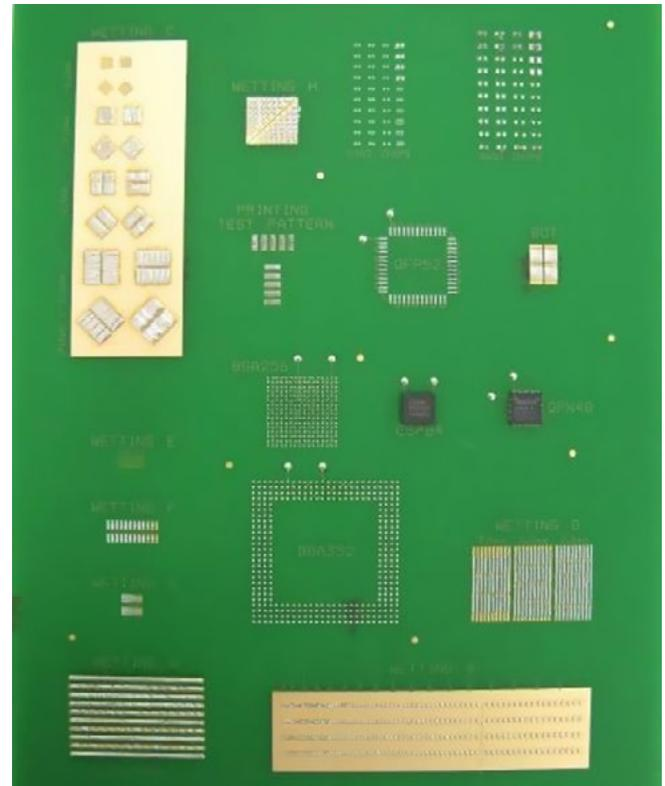
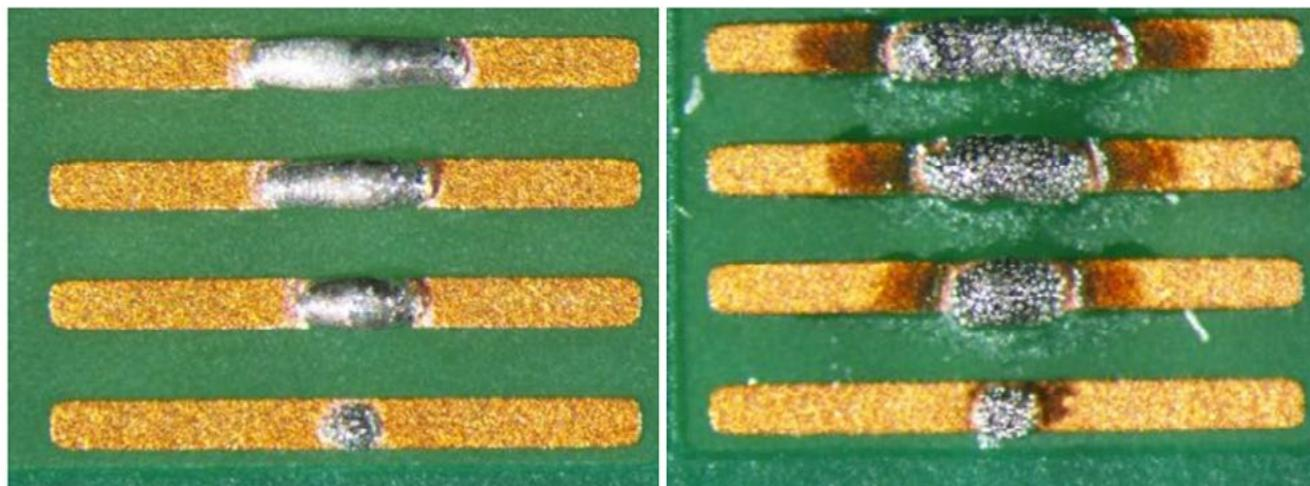

Figure 6: Wetting test board.
Figure 7: Wettability on test board pattern G (ENIG): (l) Paste A; (r) Paste D.
The pastes were printed through a 100 µm stencil on a test board designed for wettability (Figure 6). In order to pre-oxidize the test boards, they were submitted to one prior reflow. P5 was used. Organic solderability preservative (OSP) and electroless nickel immersion gold (ENIG) finishes were tested. Wetting performances were checked. Pictures of wetting on patterns A and G are given in Table 6 and Figure 7.
The wetting test boards with OSP finish were used: one CSP 84 3 rows 0.5 mm pitch 7 mm2 and several 0603 chips were placed (Figure 6). After reflow with P5 thermal profile, the boards were cleaned in a water-based spraying machine. Five conditions were used: cold deionized (DI) water, 50°C DI water, 65°C DI water, 50°C DI water with 5% detergent, 50°C DI water with 25% detergent; each cleaning cycle was set to 10 minutes and was followed by a rinsing step with DI water and a drying step of five minutes at 80°C with hot air. The cleanliness was evaluated by visual inspection under binocular.